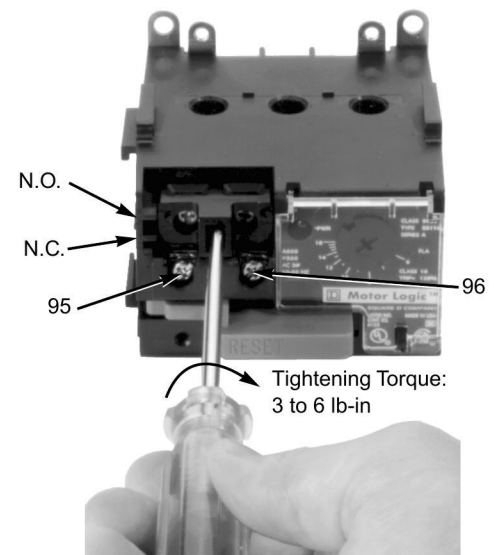

Figure 2: Tightening the Mounting Screw
5. Tighten the screw in the center of the auxiliary contact block (see Figure 2).